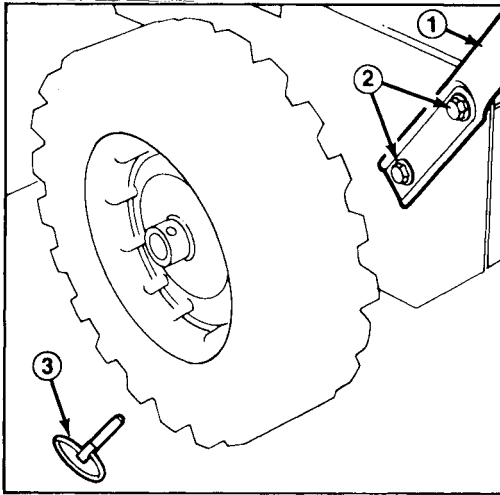

Figure 1
2. Position left handle on side of unit, align handle mount holes with holes in side plate, and secure with two capscrews and pyramidal washers until finger tight (Fig. 1). Repeat procedure on right side. Make sure handles are at same height (parallel) before tightening handle screws in both sides of unit.
**Note:** The wheel retainer pin can be removed and the wheel moved out on the axle to achieve more clearance (Fig. 1).